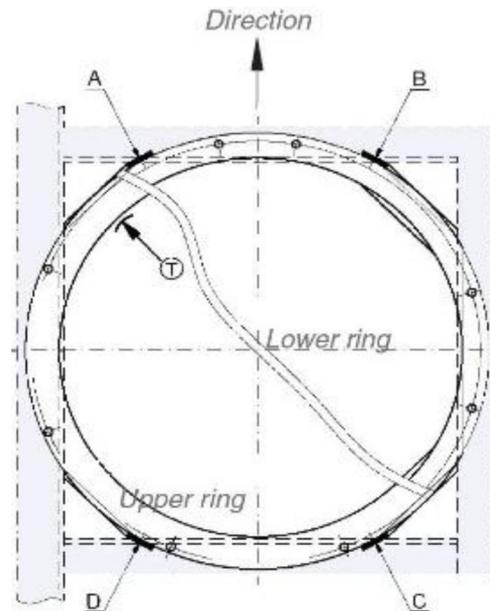

Fig.: 1
- A total of 8 weld plates (stop blocks) must be welded adjacent to the rings circumference in order to compensate shear loads resulting from horizontal forces (4 stop blocks for the lower ring and 4 stop blocks for the upper ring as presented on Fig.1 - A,B,C,D).
- The turntable could be supplied drilled or undrilled. In both cases, the filler plug or nameplate has to be positioned outside of the main load-bearing areas and orientated in the position of approximately 45° in relation to the travel direction. Do not drill any holes in line with the filler plug or name plate (i.e. as shown in Fig. 1, section "T").